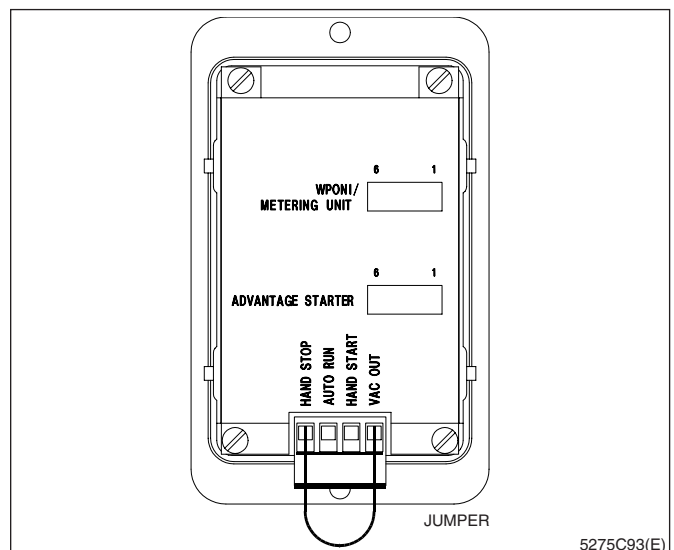
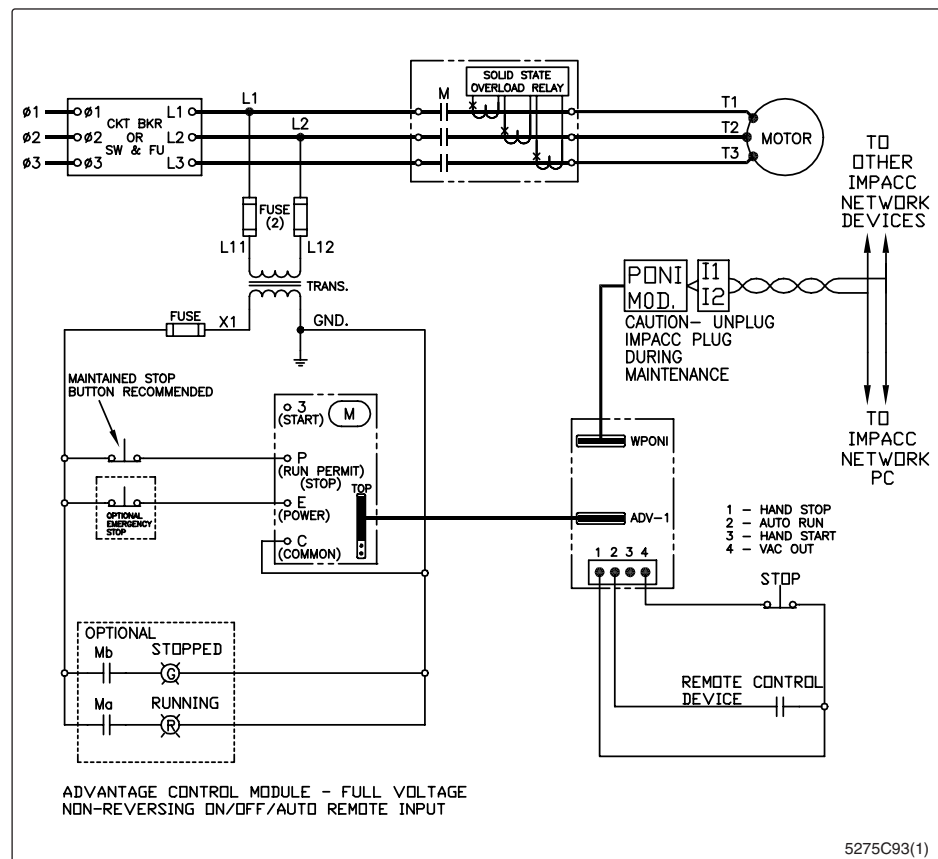
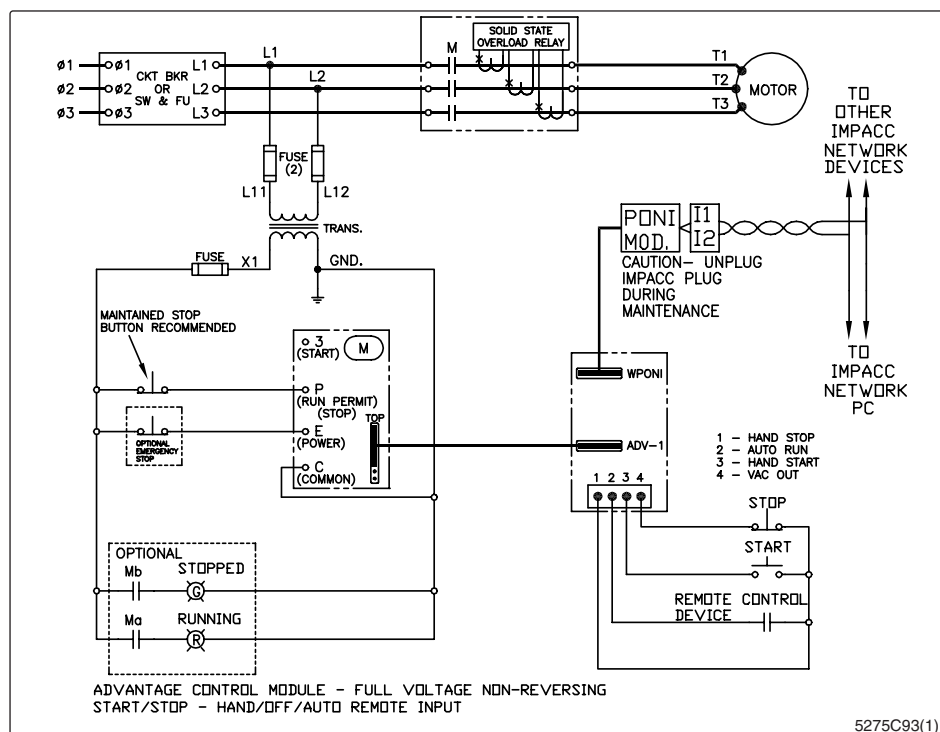

Fig. 3 Rear View of an ACM
Fig. 8 Type WPBFV4 Connection Diagram
Fig. 10 Type WPBFV3 Connection Diagram
communications module (WPONI) is used, connect the WPONI cable to the open connection on the back of the ACM labeled "WPONI/METERING UNIT". See Figure 3.
**DO NOT CONNECT ANY EXTERNAL 120VAC SOURCE TO THE REMOTE INPUT TERMINAL LABELED "VAC OUT" ON THE BACK OF AN ACM. SEE FIGURE 3. ALSO, DO NOT CONNECT ANY EXTERNAL LOADS (PILOT LIGHTS, RELAYS, ETC.) TO THE TERMINAL LABELED "VAC OUT". THIS IS A TERMINAL TO BE USED ONLY FOR THE WIRING OF THE REMOTE CONTROL DEVICES PER FIGURES 6, 8, AND 10.**
panel of the unit. In order to control the Advantage motor controller, remote FORWARD/REVERSE/STOP pushbuttons must be used and the remote input terminals on the rear of the ACM must be wired according to Figure 6. Remove the jumper installed between HAND STOP and VAC OUT. See Figure 3. The motor controller cannot be controlled over the INCOM network, but can be monitored as long as an ACM is connected to an Advantage motor controller from the 3PEC terminals. The 3PEC terminals can only be used to stop the starter.
The Type WPBFV2 ACM can be used to monitor the Advantage motor controller operational status and control the starter (starting and stopping) from the front panel FORWARD (FWD)/REVERSE (REV)/STOP membrane pushbuttons. See Figure 5. Control of the starter or contactor can also be implemented via the remote input terminals on the back of the ACM. See Figure 3. This type ACM cannot be controlled with the IMPACC system. If the remote inputs are not connected per Figure 6, a
jumper must be connected between VAC OUT and HAND STOP in order to control the starter from the front panel FWD/REV/STOP membrane pushbuttons. See Figure 3. This jumper is installed at the factory. As long as an ACM is connected to an Advantage motor controller, the user cannot start the Advantage motor controller from the 3PEC terminals. The 3PEC terminals can only be used to stop the starter.
The Type WPBFV4 ACM (Figure 8) can be used to monitor the operational status of the Advantage motor controller and control the unit from the front panel ON/OFF membrane pushbuttons. **THIS TYPE ACM SHOULD ONLY BE USED WHERE THE MOTOR RESTARTING AUTOMATICALLY AFTER A POWER LOSS DOES NOT CREATE A SAFETY HAZARD.**
With this version, the remote hand inputs HAND START and HAND STOP on the back side of the ACM cannot be utilized. The only input that can be utilized is the AUTO RUN input (see Figure 8) as long as the unit is set in the automatic mode via the front panel AUTO membrane pushbutton. This ACM can be controlled by the IMPACC system as long as the ACM is set in the AUTO mode. A jumper must be connected between VAC OUT and HAND STOP (see Figure 3) in order to control the starter from the front panel ON/OFF membrane pushbuttons and over the IMPACC system using an Advantage WPONI module. This jumper is installed at the factory. As long as an ACM is connected to an Advantage motor controller, the user cannot start the Advantage motor controller from the 3PEC terminals. The 3PEC terminals can only be used to stop the starter.
The Type WPBFV3 ACM (Figure 9) can be used to monitor the operational status of the Advantage motor controller and provide full control (HAND, AUTO, and IMPACC) of the controller. In order to control the Advantage starter with the IMPACC system, the ACM must first be put in the AUTO mode. If the ACM is in either the OFF or HAND mode, control over the INCOM network will not be allowed. Monitoring is available in all modes. In order to control the unit with either the front panel START/STOP membrane pushbuttons or the remote pushbuttons, the ACM must be first placed in the HAND mode. In order to control the unit with remote AUTO RUN or input, the ACM must first be placed in the AUTO mode. See Figure 10 for remote control device wiring details.
If the remote pushbuttons are not connected per Figure 10, a jumper must be connected between terminals VAC OUT and HAND STOP (see Figure 3) in order to control the starter from the front panel HAND/START/STOP membrane pushbuttons or with the IMPACC system. As long as an ACM is connected to an Advantage motor controller, the user cannot start the Advantage motor controller from the 3PEC terminals. The 3PEC terminals can only be used to stop the starter.